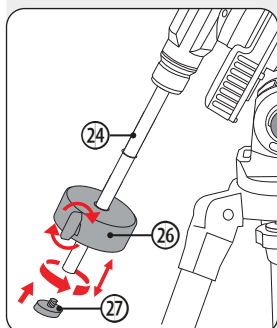

Fig. 13: Attaching the counterweight
3. Unscrew the locking screw (27) from the counterweight shaft. Slide the counterweight (26) approximately halfway onto the counterweight shaft (24) and tighten the locking screw hand-tight so that the counterweight can no longer move on the shaft. Screw the locking screw (27) back onto the counterweight shaft (Fig. 13).